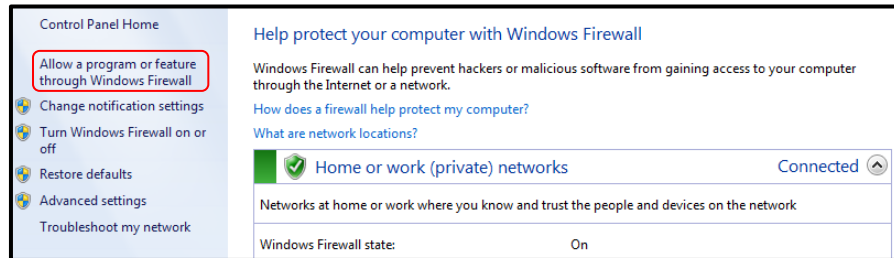

Figure 84 - Allowing a program through Windows Firewall
2. In the left sidebar, click the “Allow a program or feature through Windows Firewall” link. Refer to Figure 84.